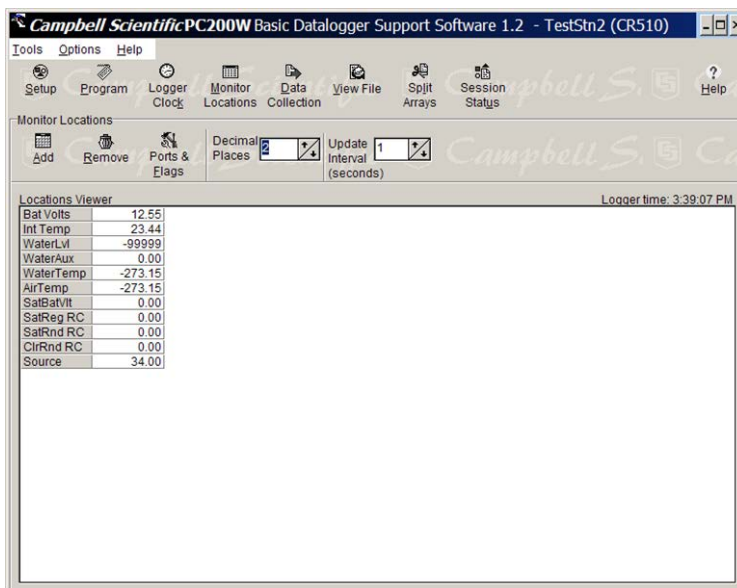

Figure 22: PC200W “Monitor Locations” screen.
6.4.2.8 With the correct station ID selected, click the “Monitor Locations” button in the toolbar above the stations window. As communication with the logger opens, a table should appear showing data stored during the logger’s most recent scan. A small text display of “Logger time” should also appear above the upper right corner of the viewer window. This continuous display of logger time is an indicator that the connection with the datalogger is active. See Figure 22.